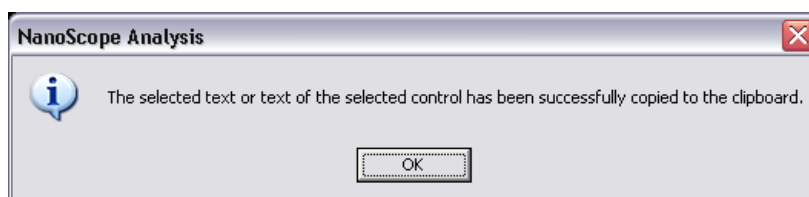

Figure 5.1c: Dialog Indicating Text has been Copied to the Clipboard
5. A new dialog, shown in Figure 5.1c, will appear notifying the user that the data from the **Channel Parameters** area has been copied to the clipboard. The user can now save the data into their preferred medium.